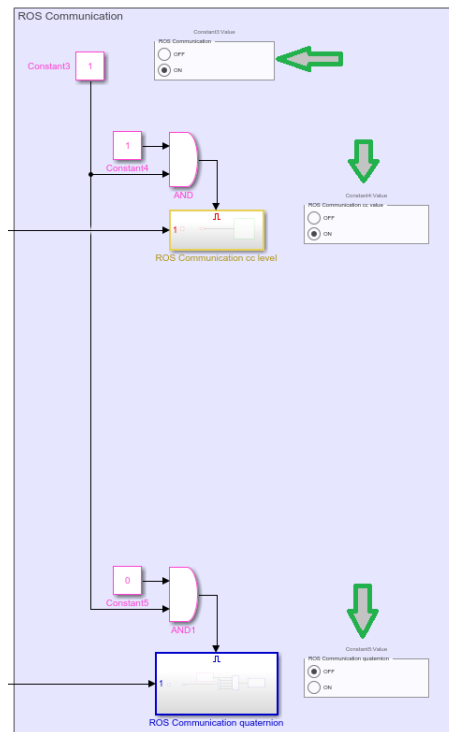

Figure 7: ROS Communication
10. in 'gForce_data_acquisitionn_ccOnline_ROS_v2_1.slx' [ROS Communication] set to 'off' all the Radio Buttons (Figures 7)
6. in 'gForce_data_acquisitionn_ccOnline_ROS_v2_1.slx' [ROS Communication] set to 'on' the required Radio Buttons (Figures 7)